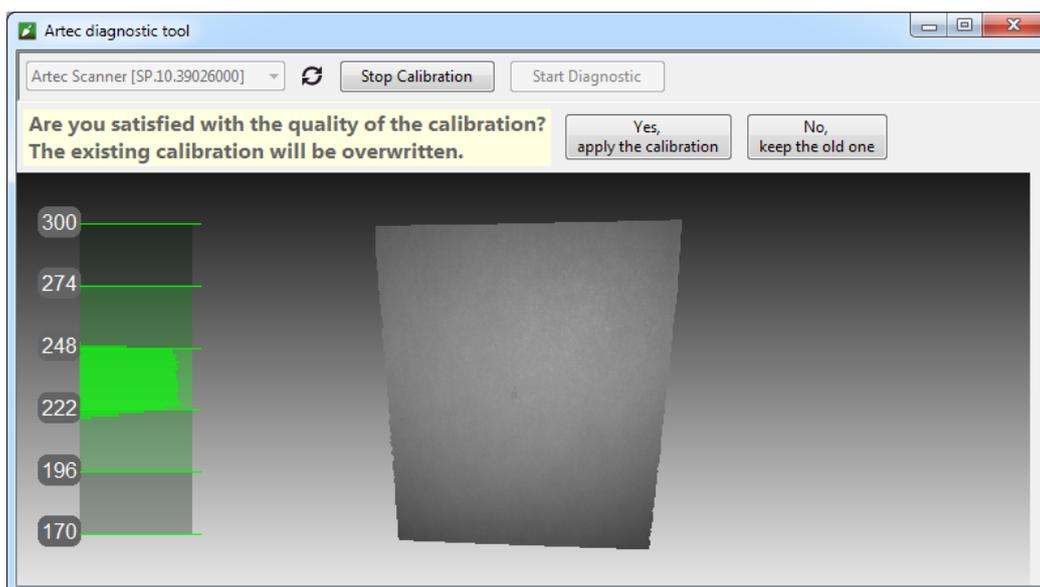

Figure 139: Assessing calibration results.
11. Click *Yes, apply the calibration* if no holes appear on the surface and you are satisfied with the reconstruction results. To reject the new calibration, click *No, keep the old one* (see Figure 139).